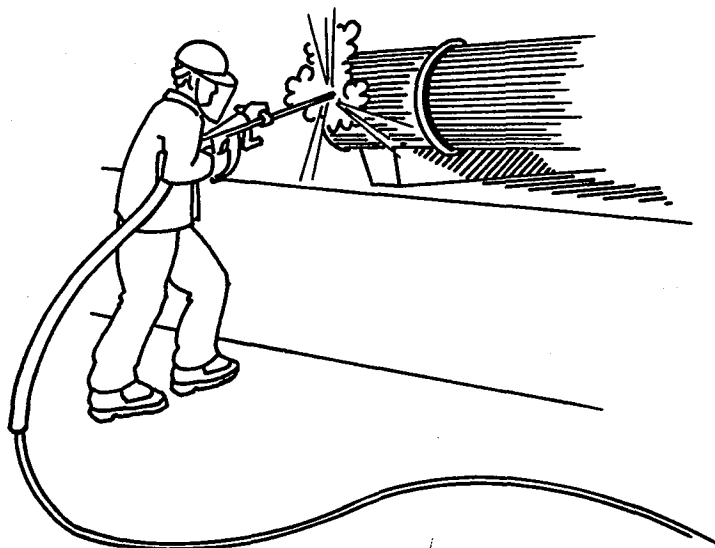

Figure 21. Shotgunning
10.8.1 **Controls** - The jetting gun **shall** be fitted with either a dump system or dry shutoff control valve. The person operating the gun, lance, or nozzle assembly **shall** have direct control of the dump system (Figure 21).